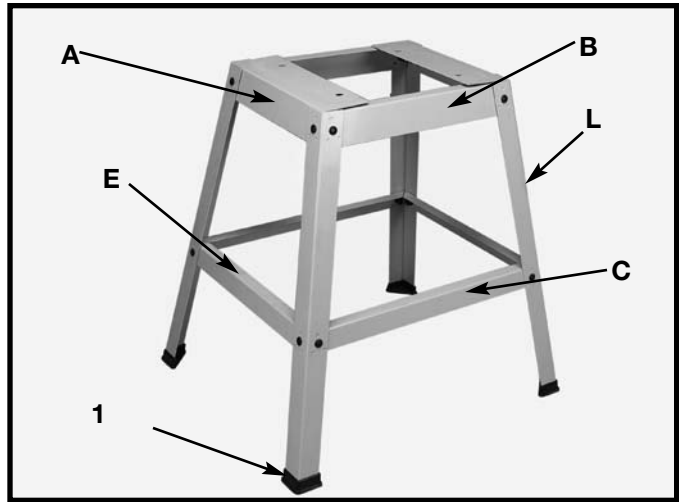

Fig. 4
1. Assemble stand as shown in Fig. 4, using parts shown in Fig. 3. The brackets and legs are identified with the same letter in both illustrations. Insert the M8 x 16mm carriage head screws through the legs and the brackets then place the 3/8" flat washers on the screws and secure with the M8 hex nuts. Only tighten nuts finger-tight at this time. **NOTE:** The top lips of top brackets (A) must fit on top of the front and back brackets (B).
2. Attach the four plastic feet (1) Fig. 4 to the bottom of each leg (L).